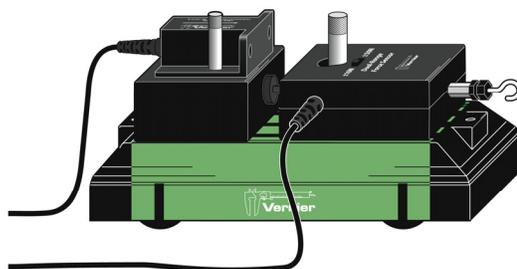

Figure 4
9. Remove the Accelerometer, attach the 0.50 kg mass to the cart, and then re-attach the Accelerometer (see Figure 4). Record the total mass of the cart, sensors, and additional mass in the data table.